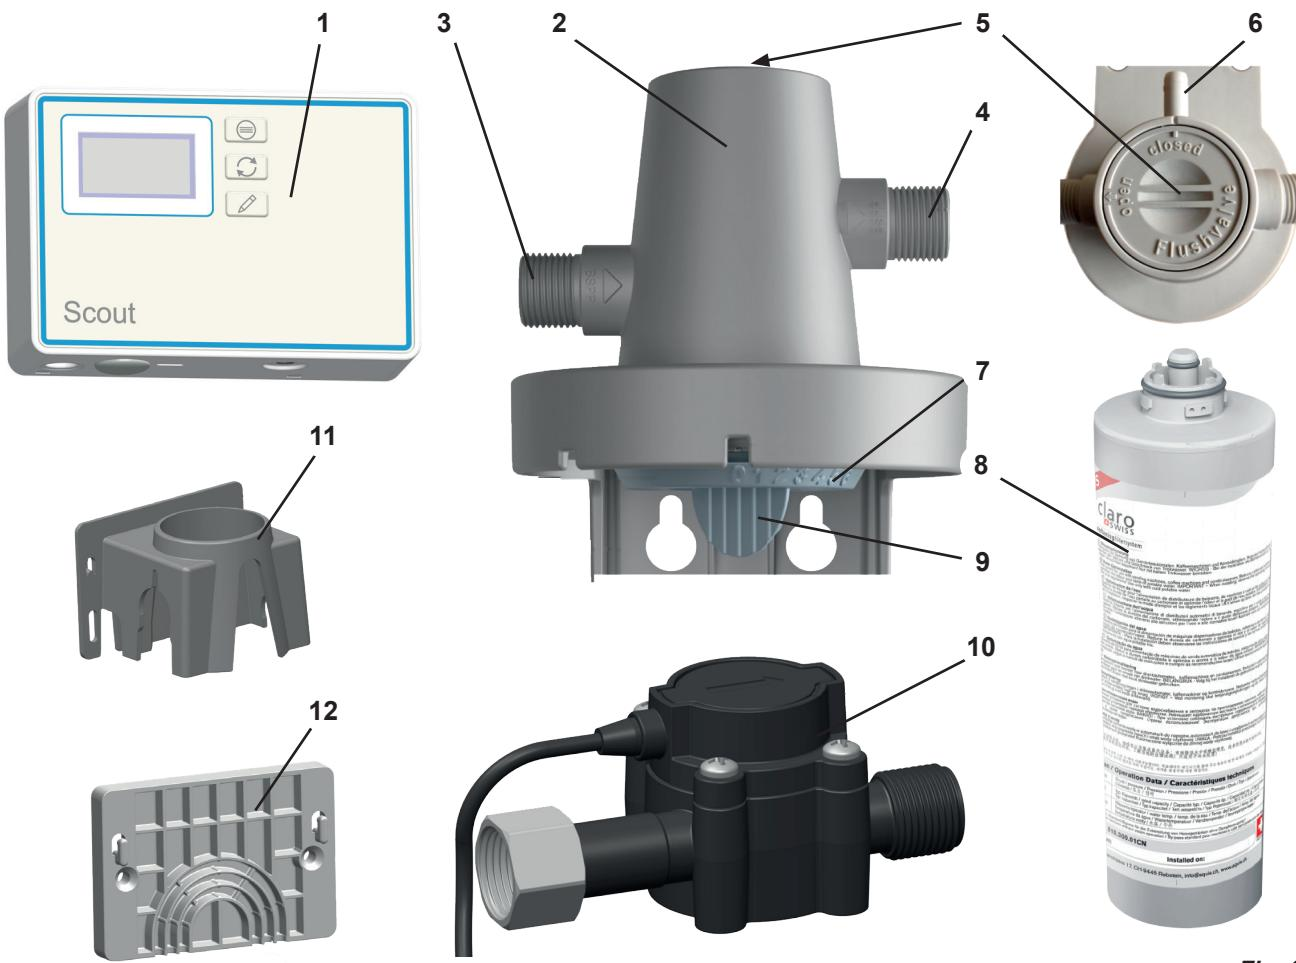

Fig. 1
- 1 Flowmeter (items 1, 10, 11, 12, Fig. 1) for POWER steamer water softener
- ⇒ Screw one adapter (3/4" - 3/8") onto the connection of the sensor unit (10, Fig. 1).
- ⇒ Screw one adapter (3/4" - 3/8") onto the inlet of the filter head (3).
- ⇒ Screw the sensor unit to the outlet of the filter head (4) using the union nut.